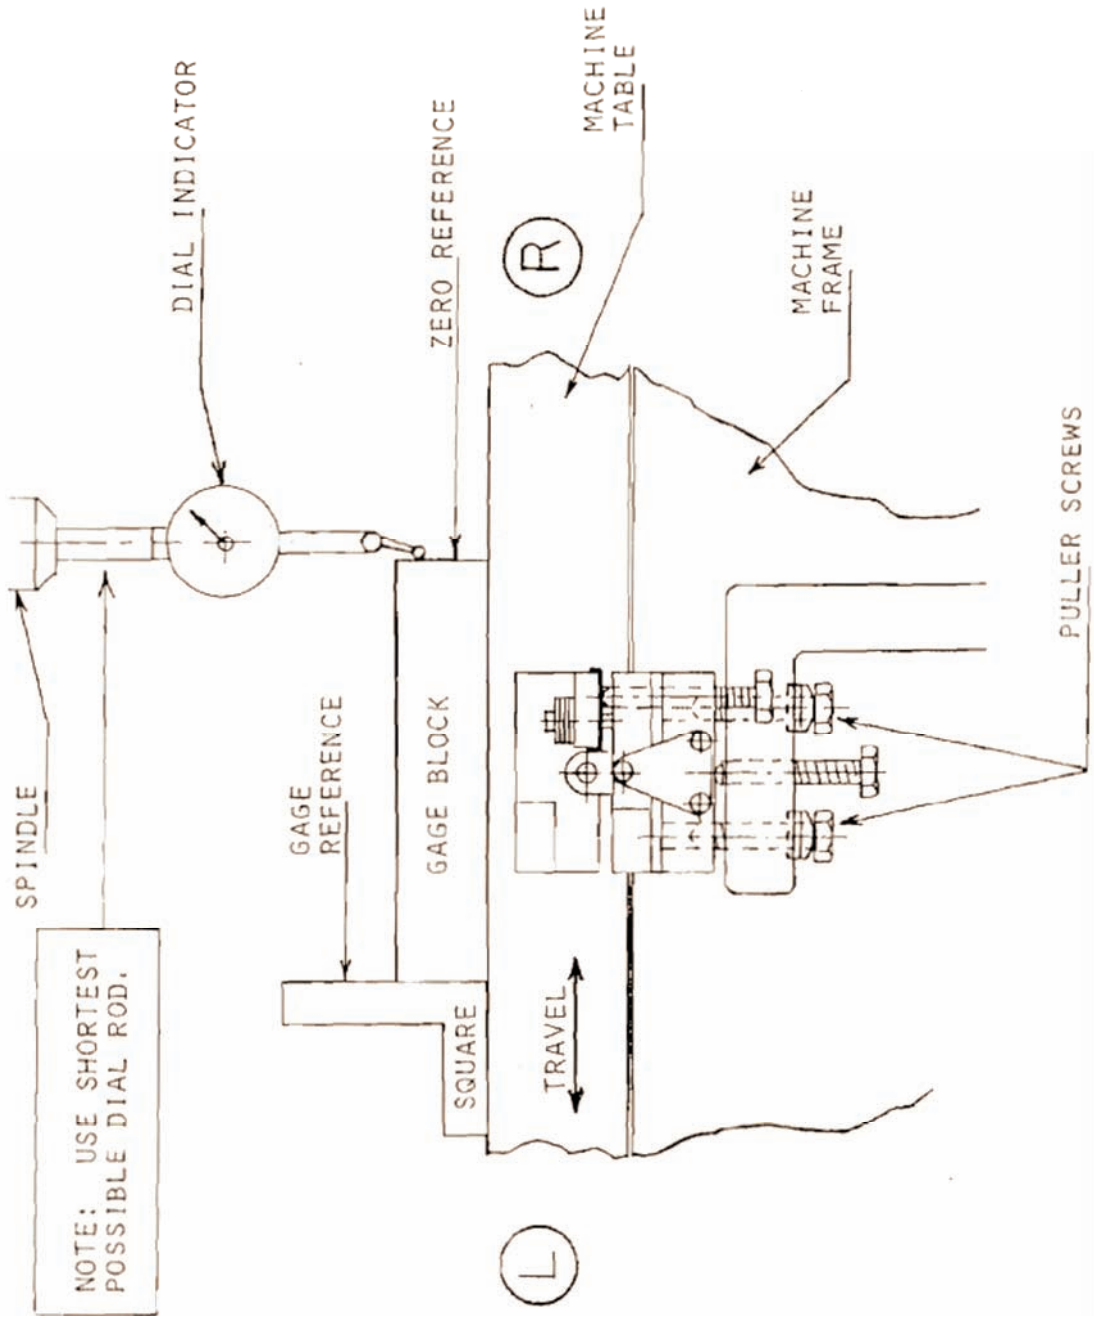

Figure 4-1
Step 2 (figure 4-1)
- b. If the sensor is not level, loosen one of the puller screws (figure 4-1) and tighten the other an equal amount until the sensor is correctly positioned.